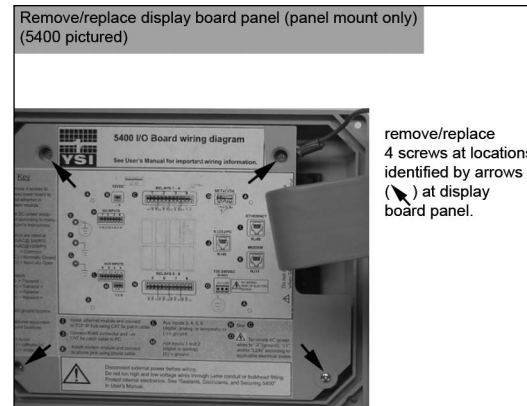

Figure 3.6
3. Remove and retain four screws that secure display board into top panel enclosure - figure 3.6. (Display board is mounted on panel attached to 5X00 top panel. I/O Board wiring diagram is located on the display board panel.)
11. Replace four screws to reattach display board panel to front panel enclosure - figure 3.6.